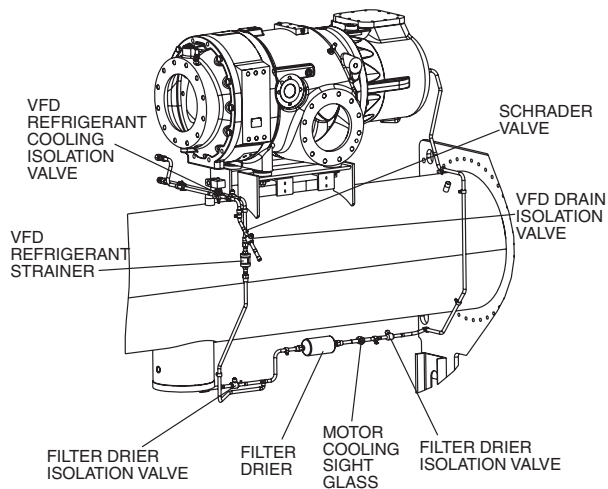

Fig. 22 — VFD Refrigerant Isolation Valves (Q, R Compressors Only)
1. For Q and R compressors, close the 2 filter drier isolation valves (Fig. 22) and the 2 VFD isolation valves. Isolate the refrigerant charge into the condenser to prevent a refrigerant leak if one of the motor terminals is accidentally damaged during VFD removal or installation. For Q and R
compressors, evacuate the VFD coldplate through the Schrader valve (Fig. 22) on the VFD drain isolation valve.